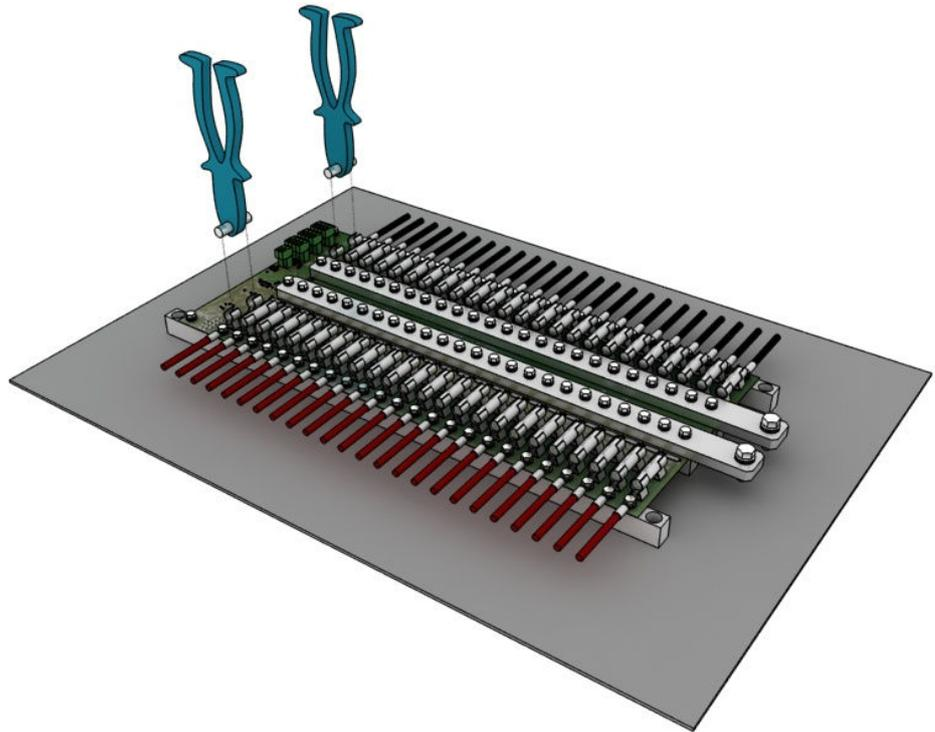

Figure 5: Install the fuses
The proposed installation steps for the SNV022EC.A are the following and illustrated in the figures 5 to 8:
1. Mount the assembled card to the back plate using four screws (self-taped or normal) in the appropriate position depending to main switch. (figure 5)